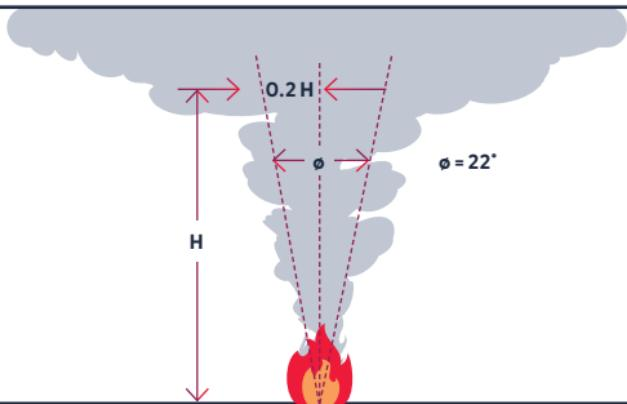

Figure A17.7.4.7.2: The plume divergence of an unconstrained fire
**Figure A17.7.4.7: Maximum distance at which ceiling suspended light Projector and Receiver/Reflector can be positioned from end wall is one quarter selected spacing (S)**